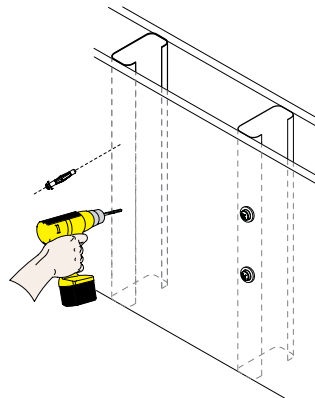

Figure 21. Drilling Mounting Holes for Steel Stud Anchors
9. Use a power drill and 7/16" drill bit (not included) to drill a hole at each of the marks (Figure 21).